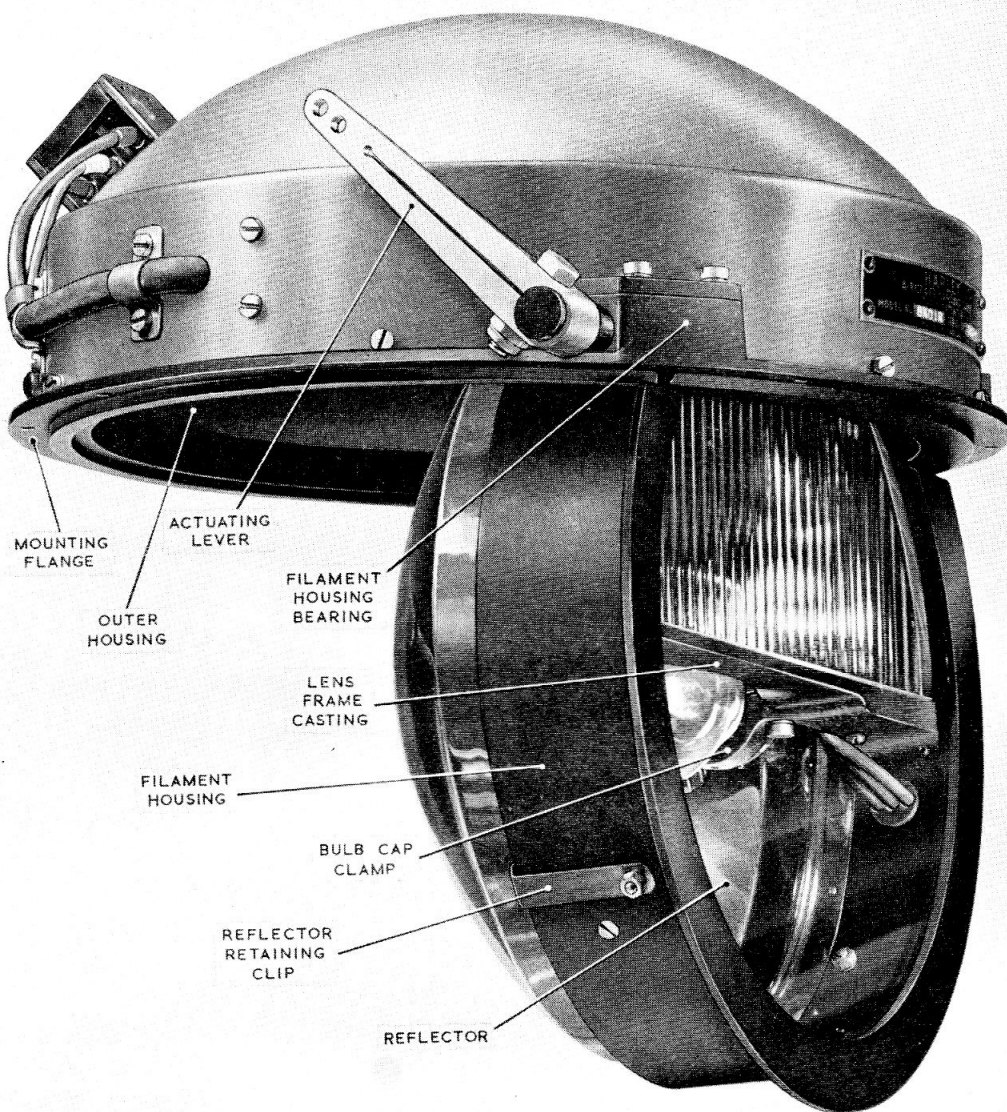

Fig. 1. Harley Landing Lamp, Type 8KD/1R
1. This lamp is similar to that described in the main chapter (shown in fig. 1) but has no operating unit attached. A remote power unit, either electrical or hydraulic, or a Teleflex control; may be connected to the